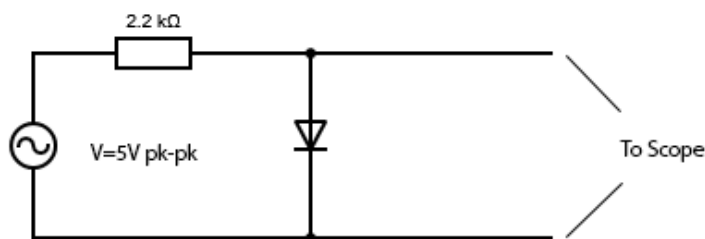
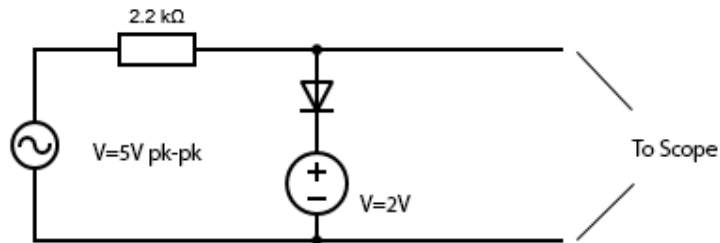

Fig 1.1
Fig 2.1
- a) The apparatus was set up as shown in *Fig 1.1*, with a $2.2\text{k}\Omega$ resistor connected in series with a standard diode. The circuit was then connected to a 5V pk a.c power source and current was allowed to flow through the circuit. Using an oscilloscope, the voltages flowing through the circuits was observed and the results recorded.
- b) The circuit was then changed and another standard diode was placed in parallel with the one seen above in *Fig 1.1*. The bias of the second diode was set opposite to that of the first. The circuit was then connected to a 5V pk a.c power source and current was allowed to flow through the circuit. Using an oscilloscope the voltages flowing through the circuits were observed and the results recorded. The resulting voltages before and after the second diode on the oscilloscope were then compared.
- From **a)** it can be determined that when an a.c source is applied to the circuit in *Fig 1.1* the voltage oscillated normally in the bottom half of the oscilloscope (sinusoidal curve). However, when it changes direction and rises above the 0V line (top half) it levels off and continues at a somewhat constant rate.
- c) The apparatus was set up as shown in Fig 2.1 with a $2.2\text{ k}\Omega$ resistor connected in series to a forward biased diode as seen in Fig 1.1. However, this time a $2V$ d.c source was also connected in series as seen above. Using an oscilloscope, the voltages flowing through the circuit was observed and the results recorded. The results were then compared to the voltage without the d.c source as seen in Part One (Fig 1.1)
- **c)** When an a.c source and a d.c source are applied to the circuit in *Fig 2.1* it produces voltages as seen in the graph above. The voltage acts in a regular manner on the bottom half creating a sinusoidal wave as it increases and decreases. However, on the top half it levels off sharply and continues for a short period of time at a constant value.
- **a)** It can be determined that when an a.c source was applied to the circuit in *Fig 2.1* the voltage flowed normally in the bottom half of the graph (sinusoidal curve). Similar to Part One when the voltage changed direction the cut-in voltage came into effect and the curve levels off. However, this time with the new addition of the d.c source the cut-in voltage as seen on the graph is a much straighter line since the voltage is being supplied at a constant rate as opposed to the previous a.c.